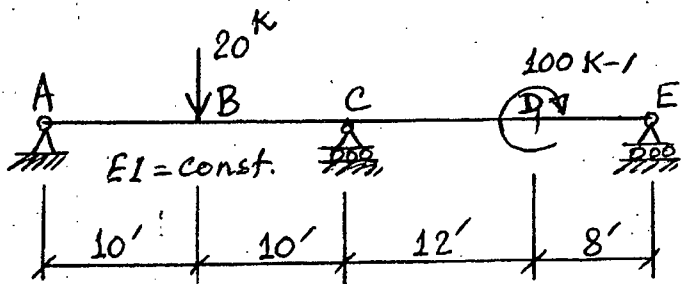

Fig. 13
14. Draw shear force and bending moment diagrams for the beam shown in Fig. 13. Given: EI = constant throughout. (21)